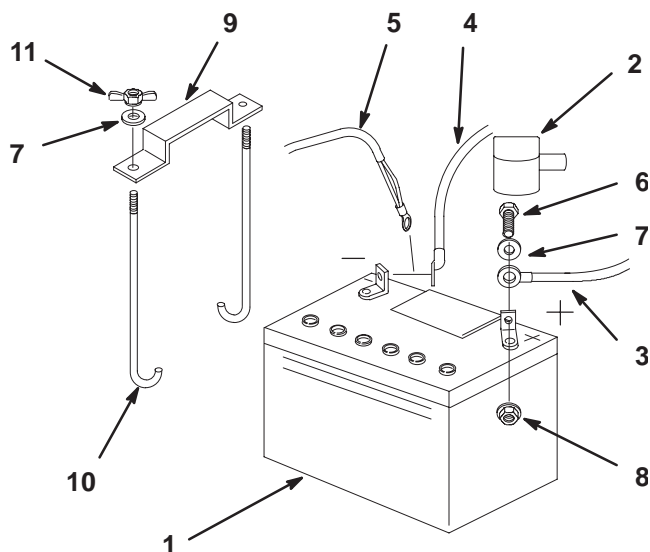

Figure 77
1. Position battery in tray with terminal posts toward the engine (Fig. 77).
4. Secure cables with 2 bolts (1/4 x 3/4 inch), 2 washers (1/4 inch), and 2 locknuts (1/4 inch) (Fig. 77).
6. Secure battery with J-bolts, hold down clamp and 2 washers (1/4 inch), and 2 wing nuts (1/4 inch) (Fig. 77).
3. First disconnect the negative battery cable and ground wire from the negative (–) battery terminal (Fig. 77).
4. Slide the red terminal boot off the positive (red) battery terminal. Then remove positive (red) battery cable (Fig. 77).
5. Remove both wing nuts (1/4 inch) securing the battery clamp (Fig. 77).